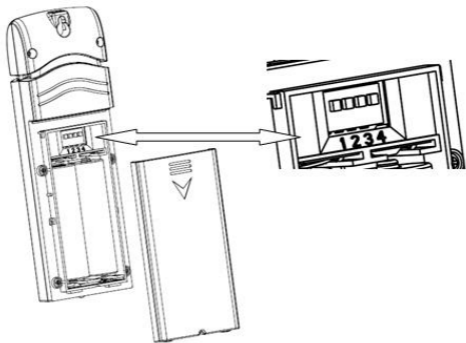

Figure 4: Battery installation
1. Remove the battery door on the back of the transmitter(s) by sliding down the battery door, as shown in Figure 4 .
Channel Number: This device supports up to eight sensors. To set each channel number, change Dip Switches 1, 2 and 3, as referenced in Figure 4.